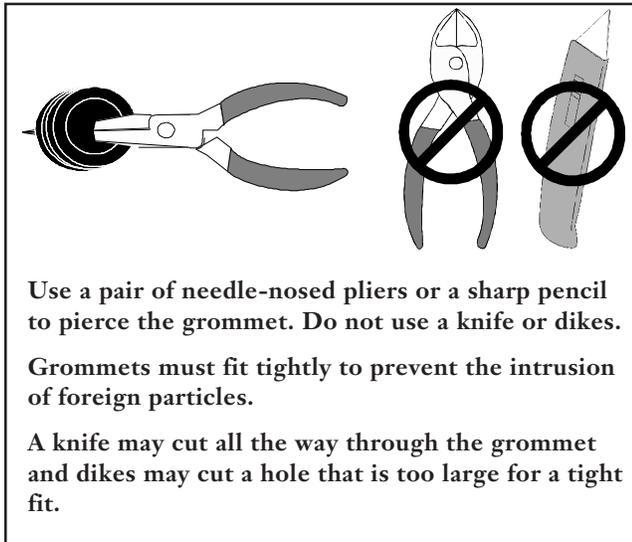

Figure 3
**6.1** Determine cable entry location and prepare the cable entry grommet as shown in Figure 3. Slide the grommet onto the cable.
9.1 Route jumpers into the WDC unit through grommets in the top and bottom of the unit. Prepare grommets as shown in Figure 3.